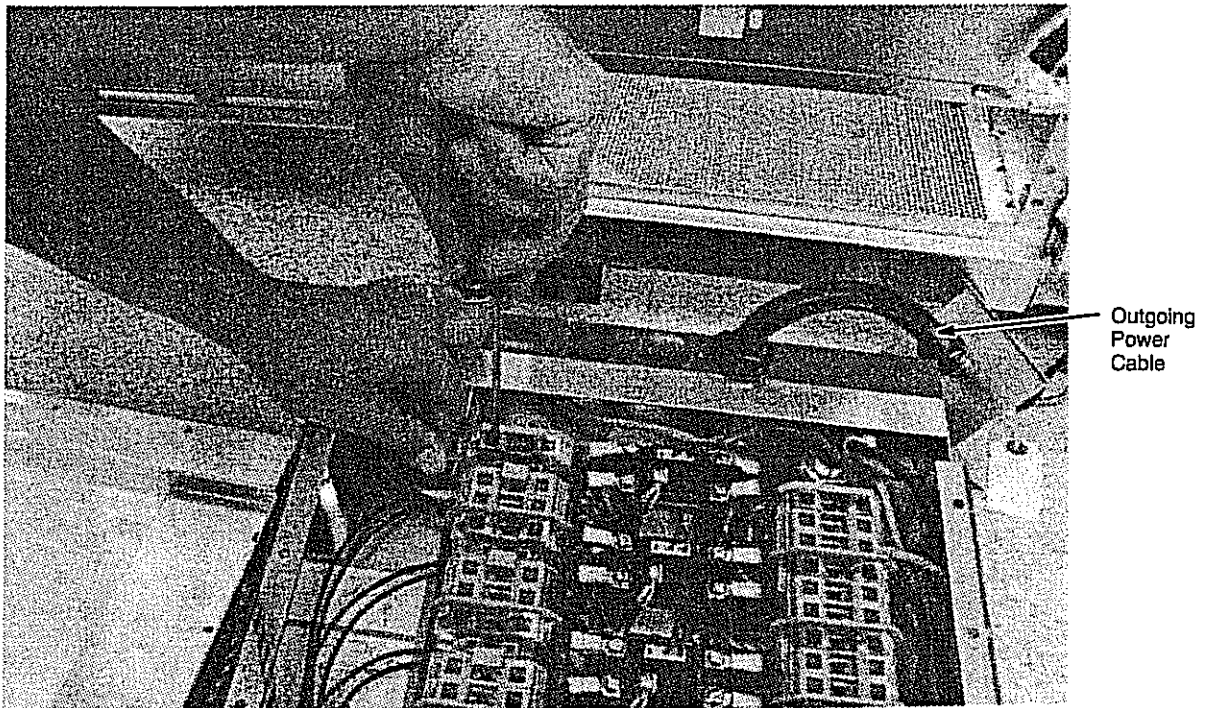

Figure 7-29. Incoming Power Module Terminal Block
10. To disconnect the incoming power cable (part number 90086600), first press down firmly with a flat-bladed screwdriver and pull the line (black) and neutral (white) wires from the incoming power module terminal block. Refer to Figure 7-29.
11. After disconnecting the line and neutral wires, disconnect the incoming power cable ground (green) wire from the incoming power module using a 3/8-inch nut driver or a 3/8-inch socket. Refer to Figure 7-29.
14. To disconnect the outgoing power cable (part number 90086301), press down firmly with a flat-blade screwdriver and pull the line (black), neutral (white) and ground (green) wires from the incoming power module terminal block. Refer to Figure 7-29.